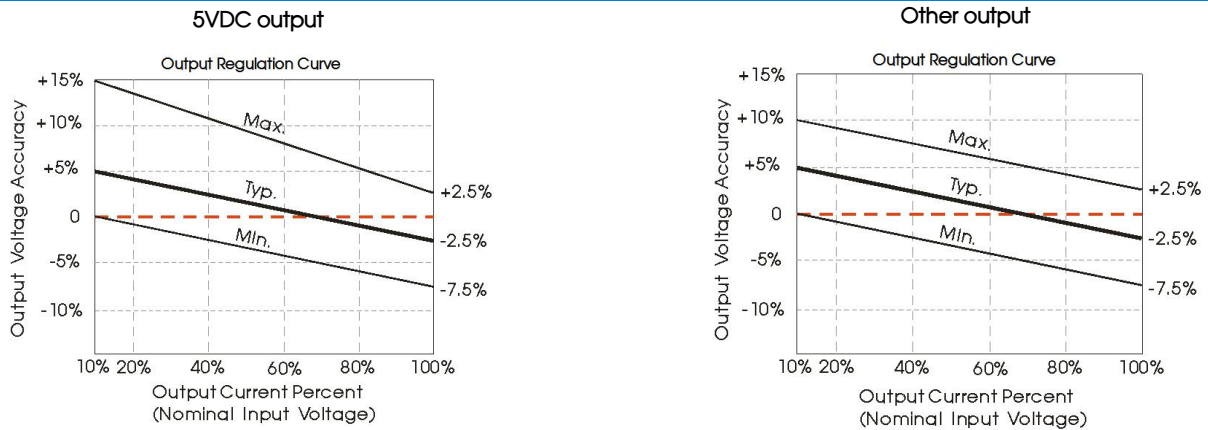

Fig. 1
| Voltage Accuracy ^① | | See Typical Characteristic Curves (Fig. 1) | | | | |